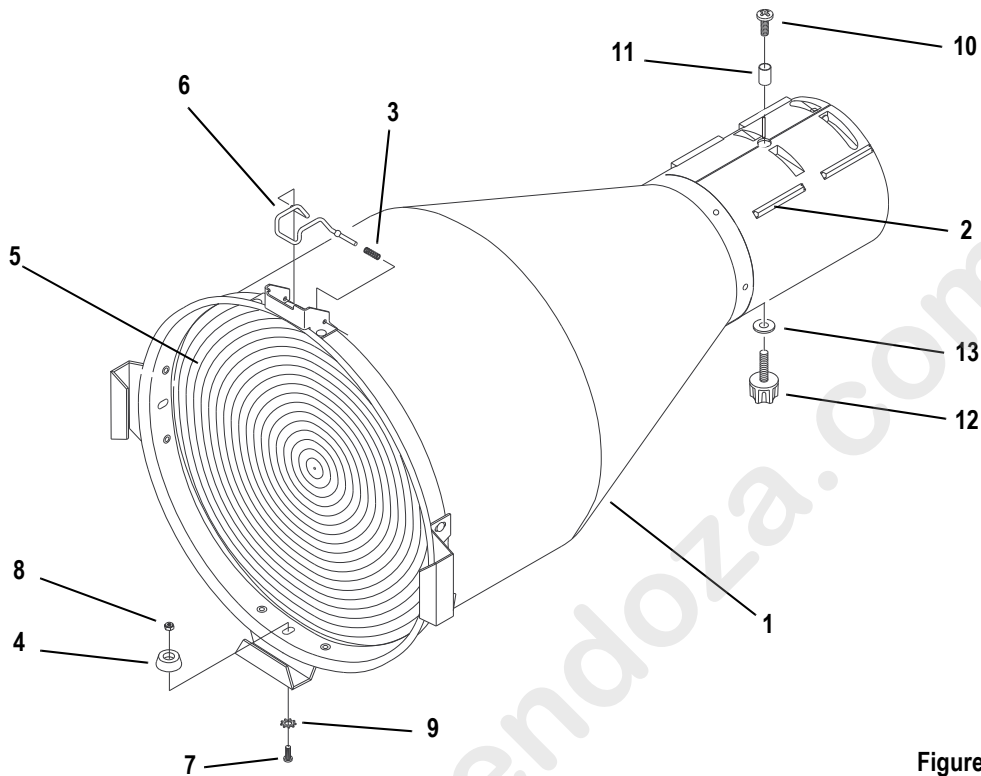
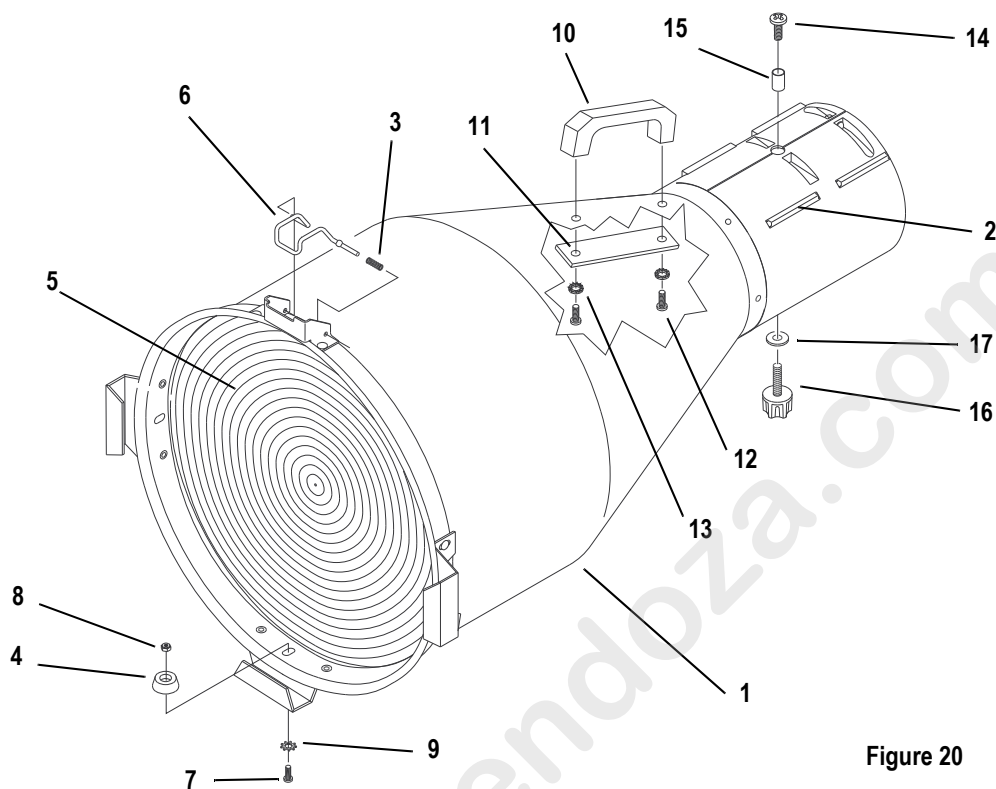

Figure 19
Figure 20
- Step 2: Install lens support pads (4) as required inside both lens tubes. Four pads are required per lens. Insert pads short-side down, as shown in Figure 19.
- Step 3: Install the 1/4-20 hex nut (13) in the left lens tube as shown.
- Step 1: Place the lens tube assembly (1) on your work surface. Align the assembly so that the colorframe grooves are to your left.
- Step 2: If you are assembling a 5° tube, attach the handle (10) as shown in Figure 20, using the screws (12), washers (13) and backing plate (11).
- Step 3: Install the required lens as shown in Figure 19 or Figure 20 in the tube using required bumpers (4), screws (7), nuts (8), and washers (9). The side of the lens with the fresnel grooves should face the front of the tube. The smooth side should face the rear.